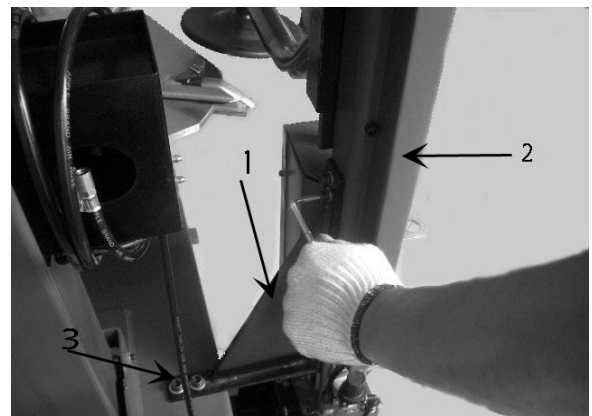

FIG 32
6.1.5 Use the fix supporting bracket (FIG 32) to connect the body bracket and the body and insert the screw to fix.